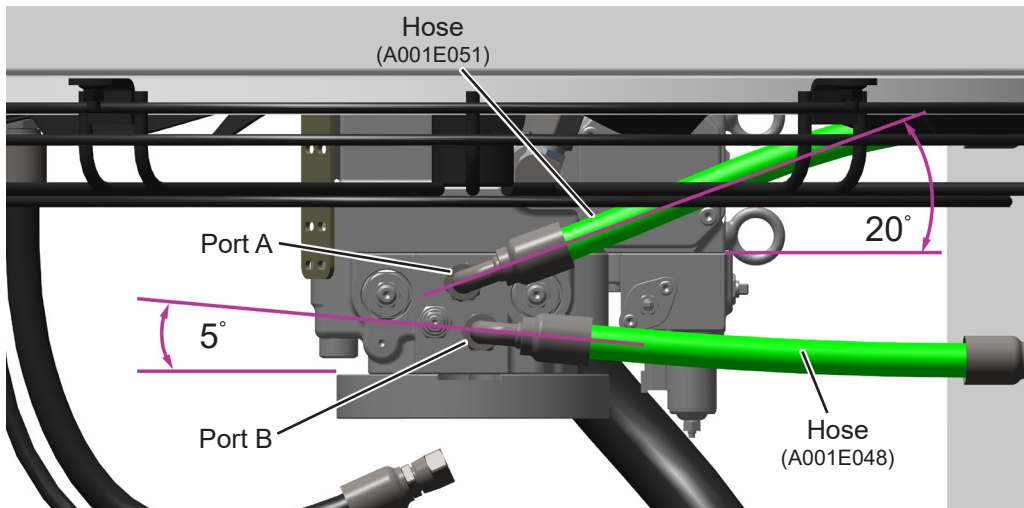

Figure 4
15. Install straight fittings (A000B895) in mixer pump port plug A and B locations. See Figure 4. Final tighten fittings to 90 ft. lbs.
16. Connect 90° end of hose (A001E051) to straight fitting installed in mixer pump port A in Step 15. See Figure 4. Final tighten hose fitting to 58 ft. lbs.
17. Connect 90° end of hose (A001E048) to straight fitting installed in mixer pump port B in Step 15. See Figure 4. Final tighten hose fitting to 58 ft. lbs.